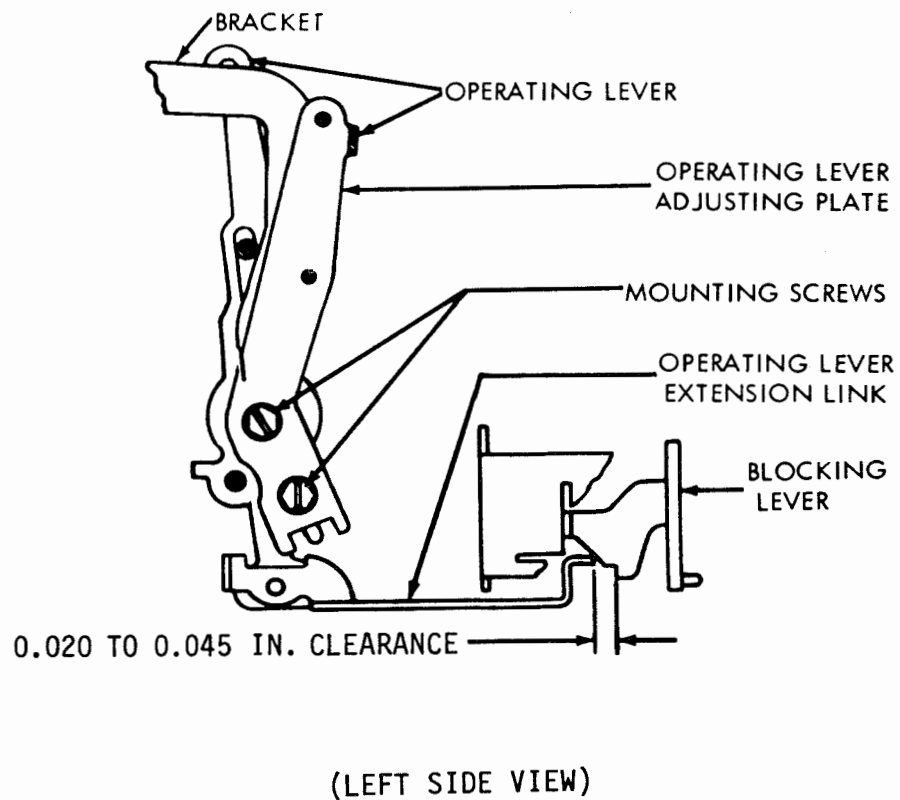

Figure 6-182. Operating Lever Adjusting Plate
(14) Operating Lever Adjusting Plate. Adjust operating lever adjusting plate as follows:
- (a) Refer to figure 6-182.